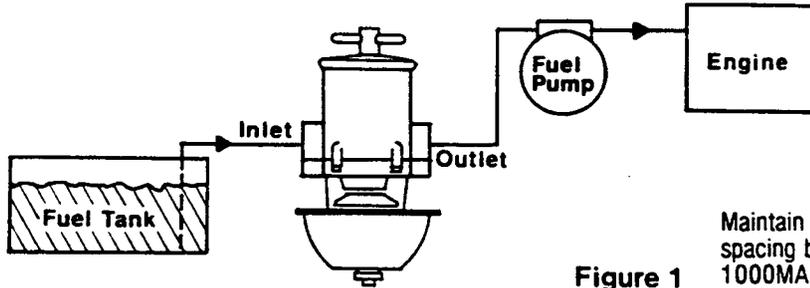

Figure 1
3. Position unit between the horizontal planes of the bottom of the fuel tank or day tank and pump inlet for minimum restriction to the pump. (See Figure 1.)